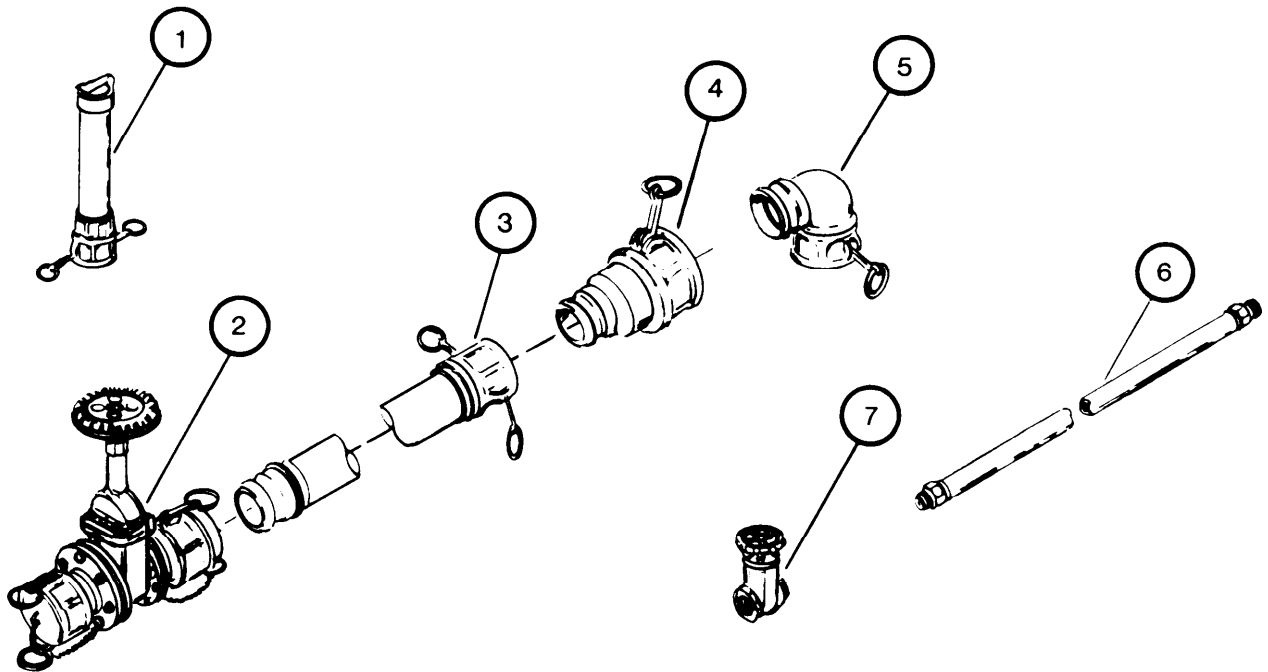

Figure 1-5. Tank Accessories
e. Tank Accessories (See Figure 1-5). The tank accessories are provided to permit normal operation of fuel transfer into and out of the collapsible storage tank. The tank accessories are considered part of the tank. They are supplied with the tank and consist of the following items: